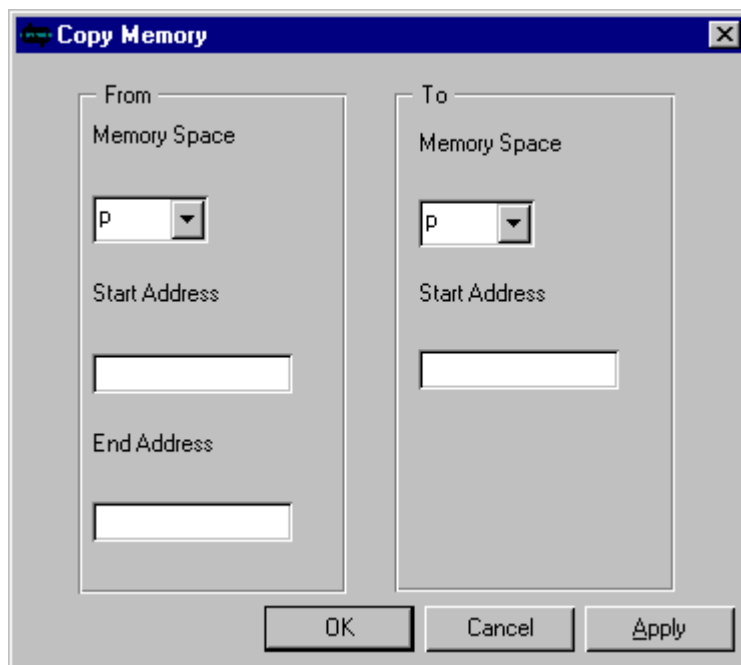

Figure 5-7. Copy Memory Dialog Box
1. From the **Modify** menu choose **Copy Memory**. The dialog box in Figure 5-7 appears.